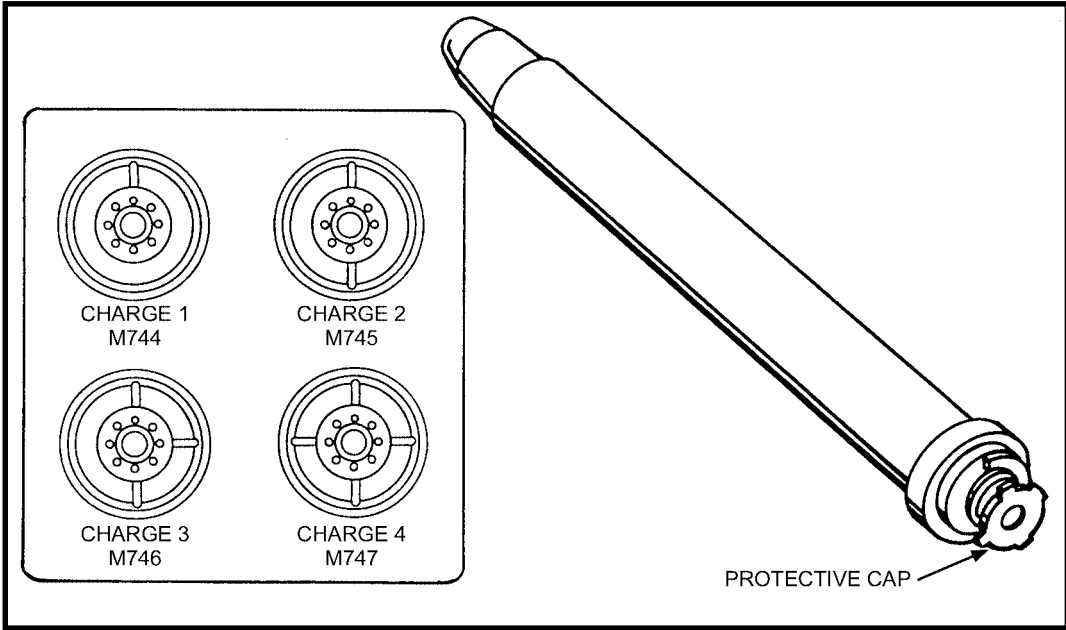
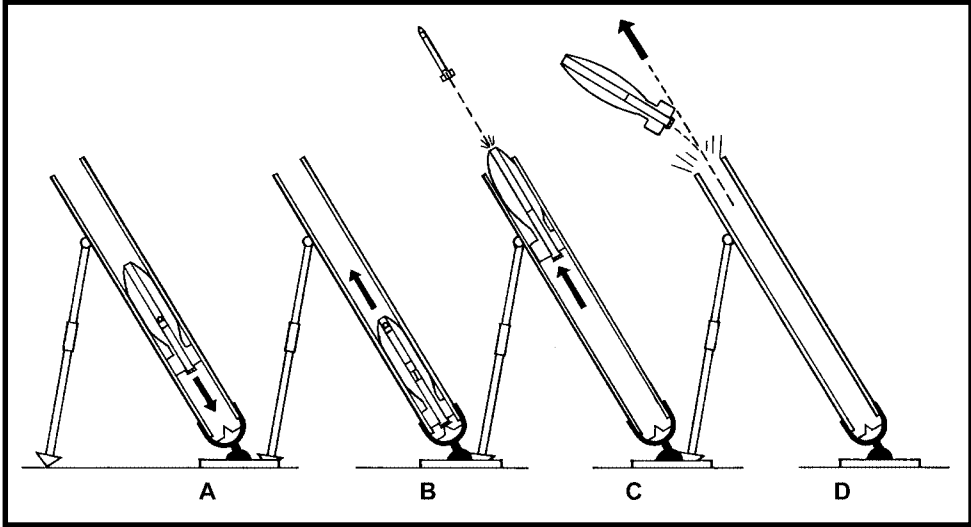

Figure A-11. Subcaliber cartridge.
Figure A-12. Firing of mortar training device and cartridge.
a. The sabot is designed to fire the subcaliber cartridge (Figure A-11) through the barrel. The subcaliber cartridge, when loaded into the sabot, approximates a round of service ammunition both in size and weight. The entire assembly is then fired from the mortar just as in service firing. The subcaliber projectile travels from 70 to 435 meters, depending on the charge and elevation selected. The projectile emits a puff of smoke and an audible report upon impact, but no fragmentation. At the time of firing, the sabot is also expelled from the mortar and impacts 2 to 15 meters from the mortar (Figure A-12, D). It is then recovered, cleaned, reloaded, and refired.